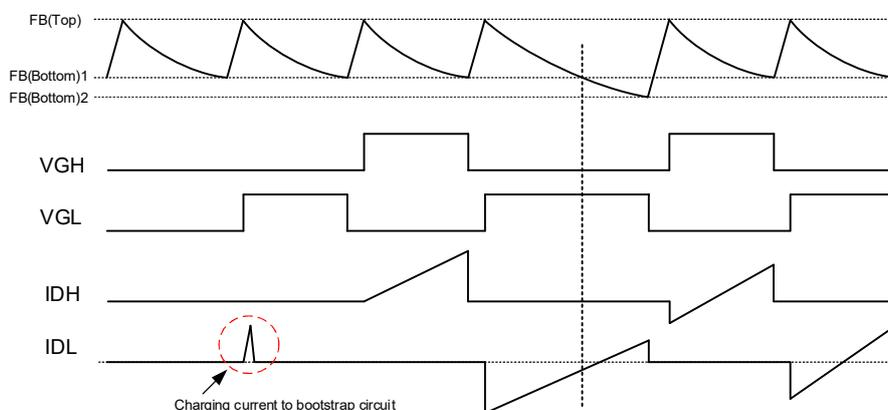

Figure 21 Tss(3) operating sequence
The MCZ5211ST includes a **Tss(3)** function to prevent the gate from turning off while the body diode is conducting at startup. As shown in **Figure 21**, the Tss(3) sequence extends the low-side VGL output by approximately 1.7-fold for the second time after the power supply starts. This enables the MOSFET to turn off the gate output after the current flows in the positive direction.